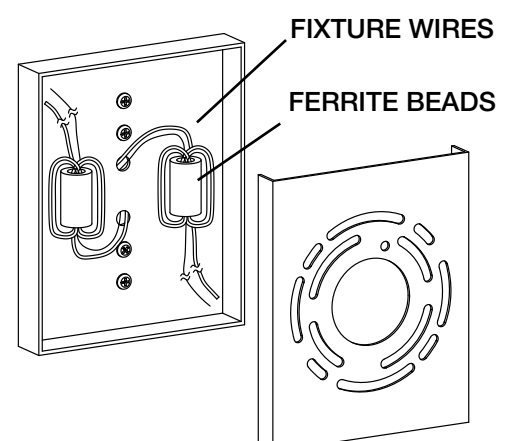

FIGURE 3
**FOR 49608 AND 49279 FIXTURES ONLY:** When installing fixture onto mounting strap ferrite beads must be oriented with the wires parallel to the canopy as shown. Care must be taken not to pinch the wires between the ferrite beads and the canopy or ferrite beads and the mounting strap. (See FIGURE 3)